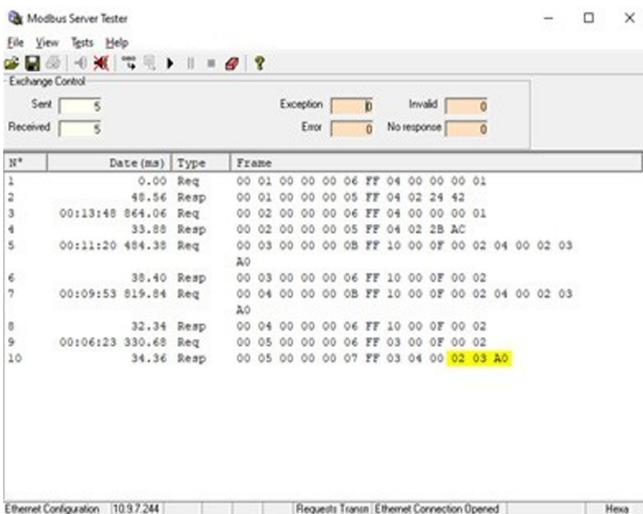

Figure 40.3.
- The Send New Frame window will appear. Click the Send button and then review the output window. Notice 0x0004E2 in response, which is the same as the value sent, as highlighted in Figure 40.3.